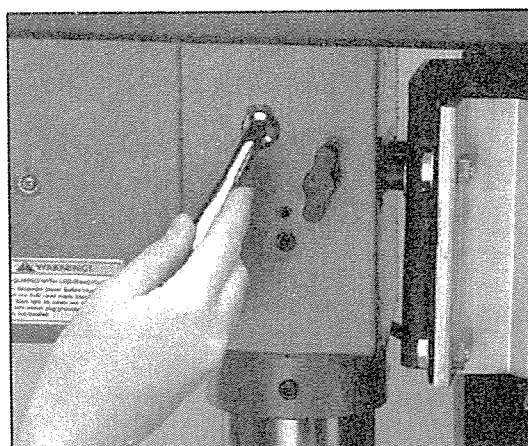

Figure 14
2. The motor should be free to move. Rotate the belt tension lever counterclockwise to take tension off the V-belts as shown in **Figure 14**.